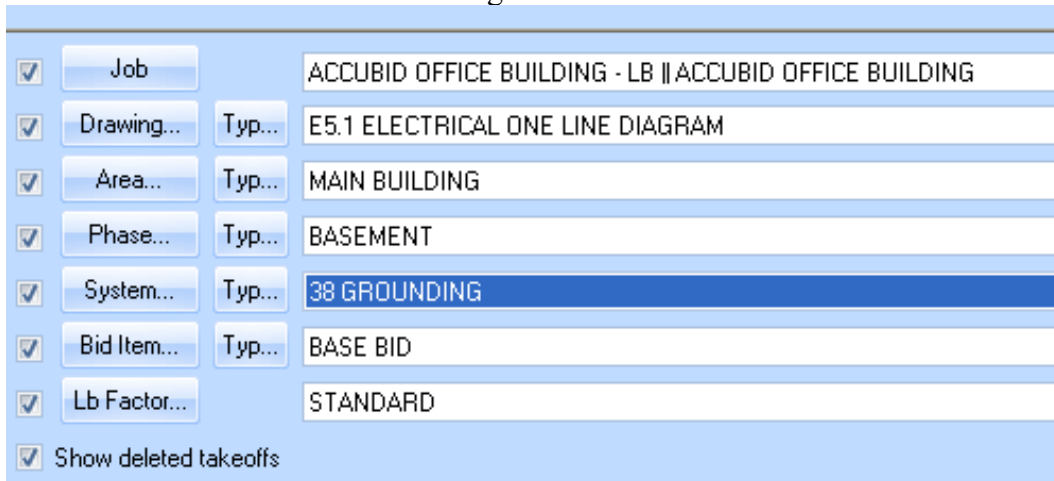

Figure 1
6. Set the Breakdown as shown in Figure 1: